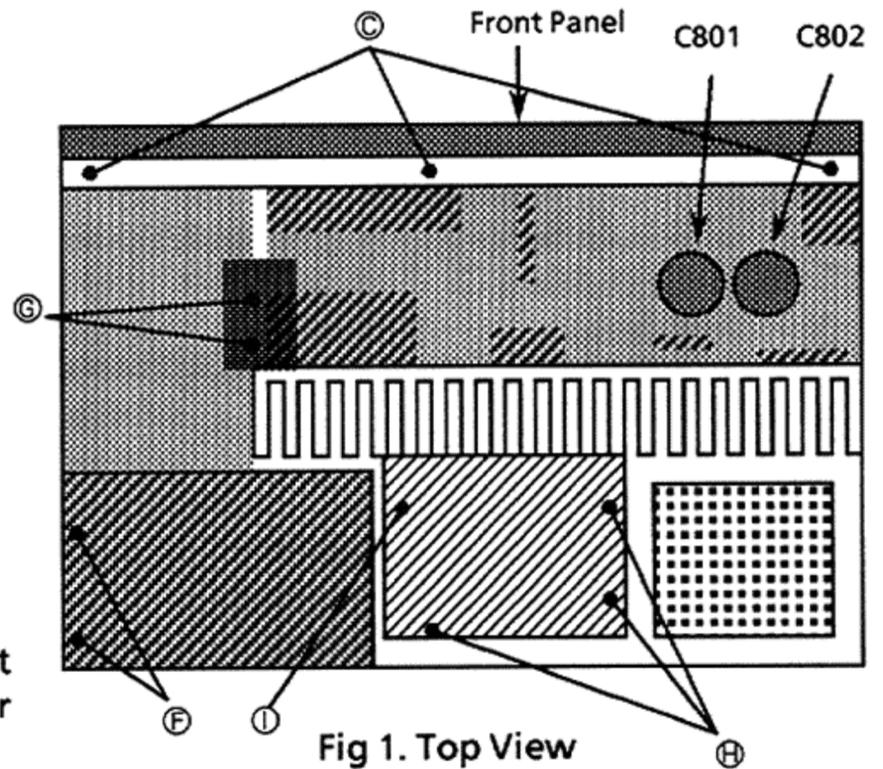
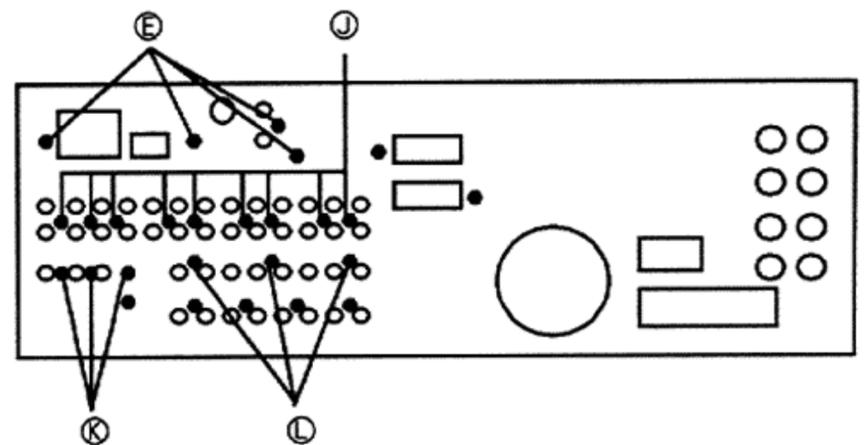
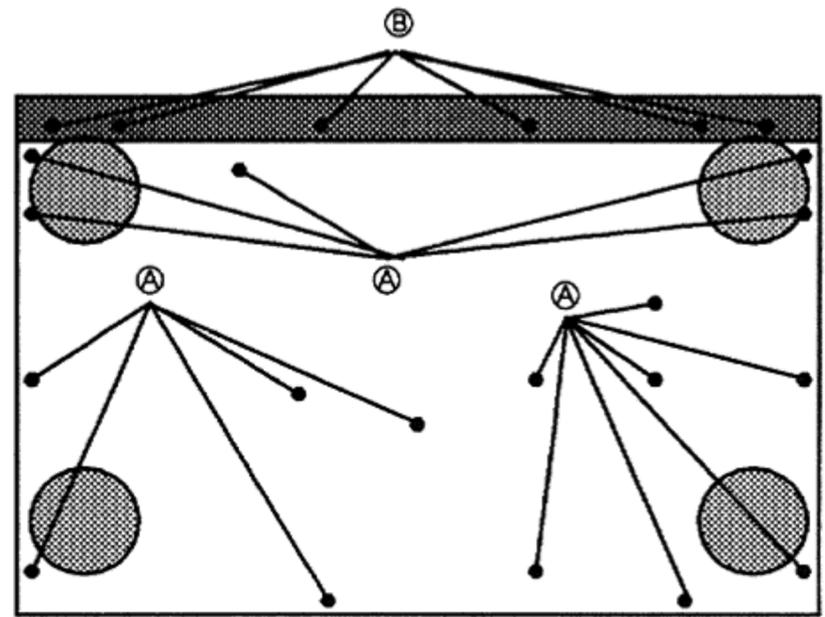

Fig 1. Top View
Fig 2. Rear View
Fig 3. Bottom Cover
■ Removing the bottom cover (Fig 3)
1. Remove 17 screws (A) fixing the bottom cover.
■ Removing the front panel (Fig 1, Fig 3)
2. Remove the 3 plastic rivets (C) on the upper part of the front panel and 6 screws (B) from the lower part.
3. Remove the 2 screws (D).
■ Removing the Tuner PCB (ENA-089-1) (Fig 1, Fig 2)
1. Remove the 4 screws (E) on the rear panel and also remove 2 screws (F) fixing the circuit board.
■ **Removing the Source select & SEA PCB (ENC-090-1) (Fig 2)**
■ **Removing the Volume control PCB (ENB-137-1) (Fig 2)**
■ **Removing the Video selector PCB (ENP-040-3) (Fig 2)**